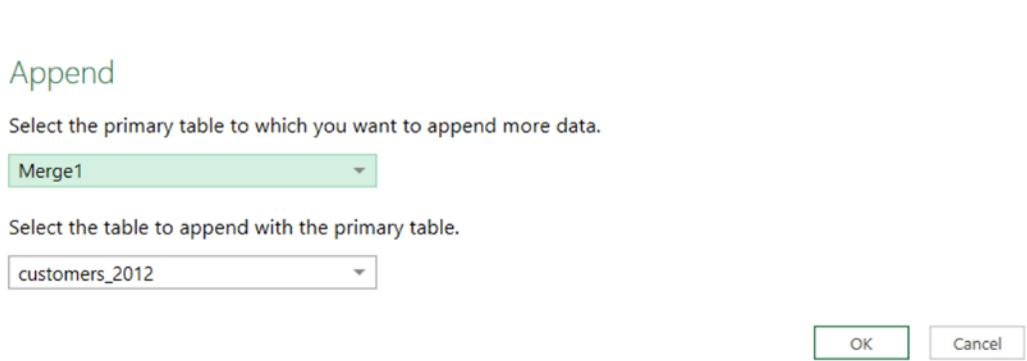

Figure 23-27. Appending 2012 customer data with the latest data using the Append feature of Power Query
2. Select both tables that you want to append, as shown in Figure 23-27.